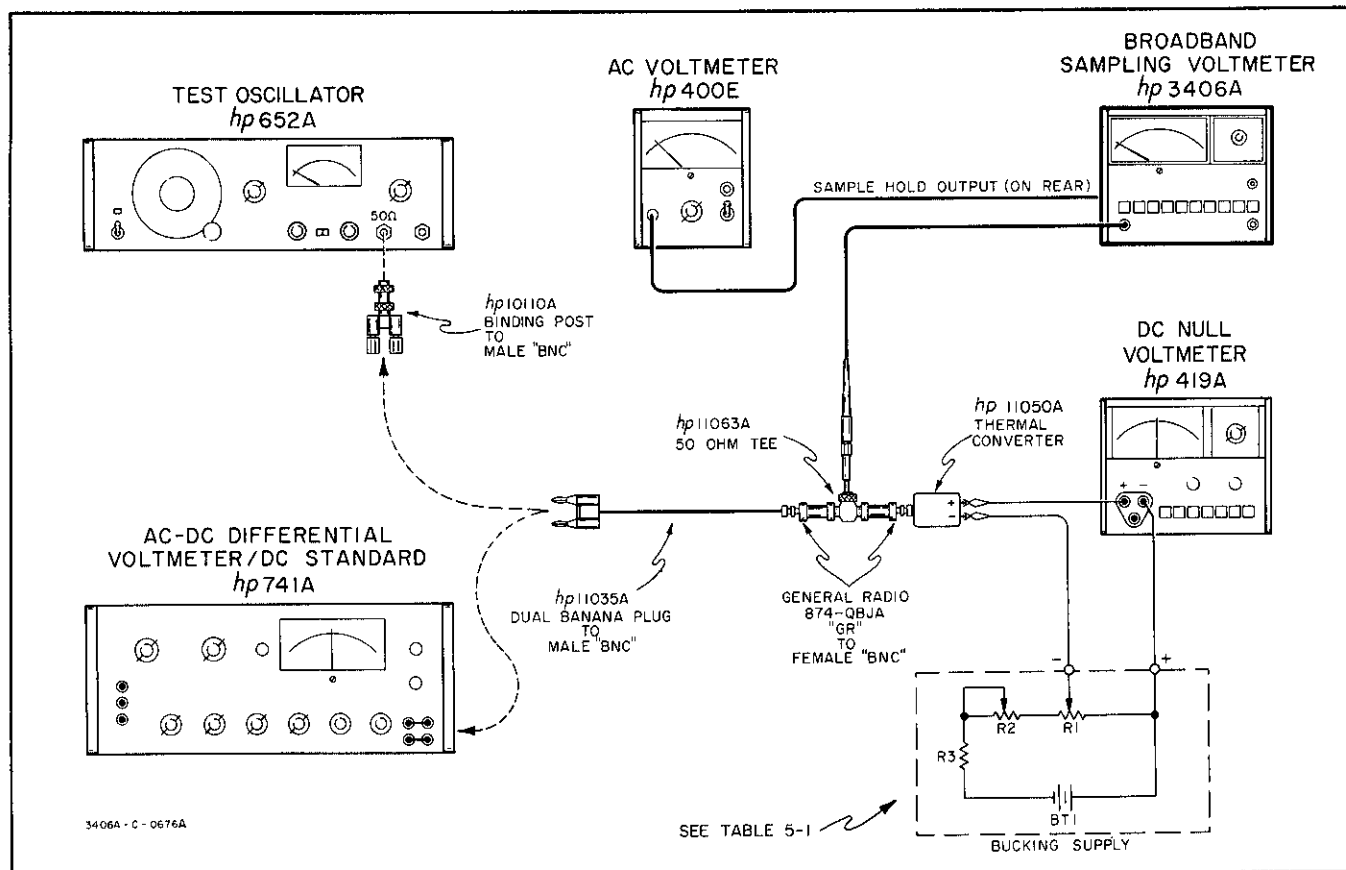

Figure 5-1. Accuracy and Range-to-Range Tracking Test Setup
- a. The accuracy and range-to-range tracking test setup is illustrated in Figure 5-1.
- b. Connect the Model 3406A as illustrated in Figure 5-1, and depress 1 volt RANGE pushbutton.